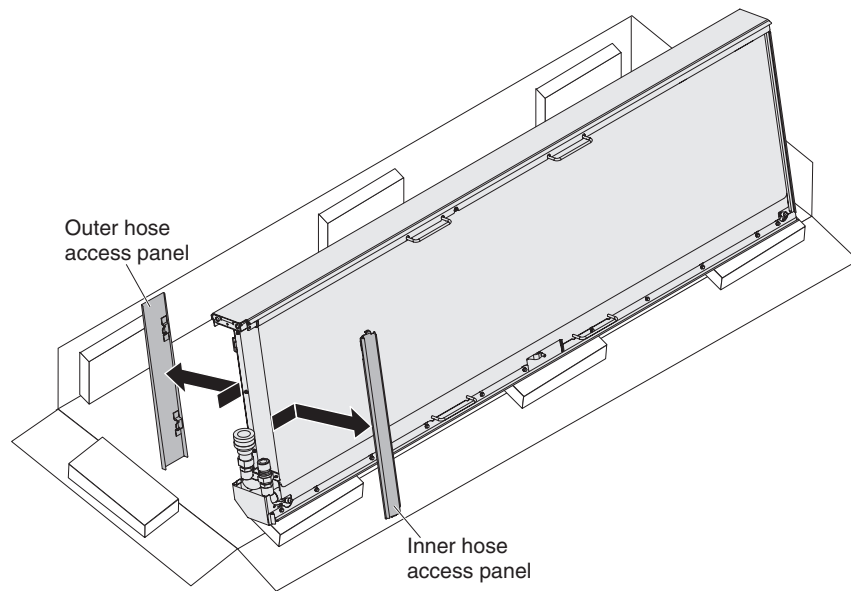

Figure 47. Rotating the heat exchanger 90° and removing the hose access panels
6. With one person holding the heat exchanger steady on the package inserts, have another person remove the inner and outer hose access panels. Push the panels up and out to remove them. See Figure 47. Set the hose access panels aside.